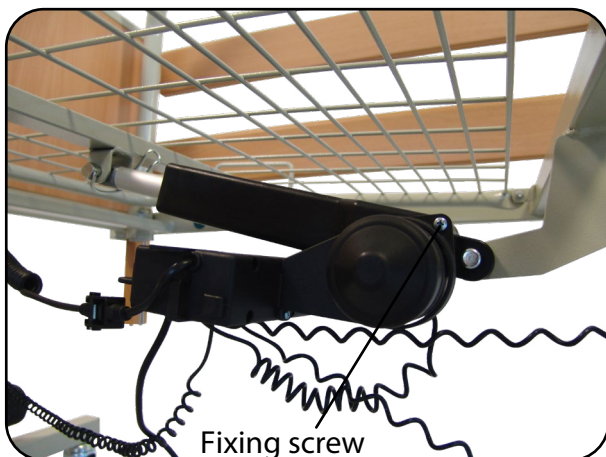

Fig. 6.3.03 – Controller on back part drive
3. Push the controller onto the back part drive and secure it against slipping away using the fixing screw (Fig. 6.3.03).